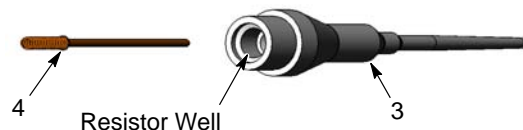

Figure 25 Removing the Resistor from the Holder
- See Figure 25. Remove the resistor (4) from the resistor holder (3). Clean the resistor holder.
- See Figure 25. Inject approximately 0.60 cc of dielectric grease into the resistor well.